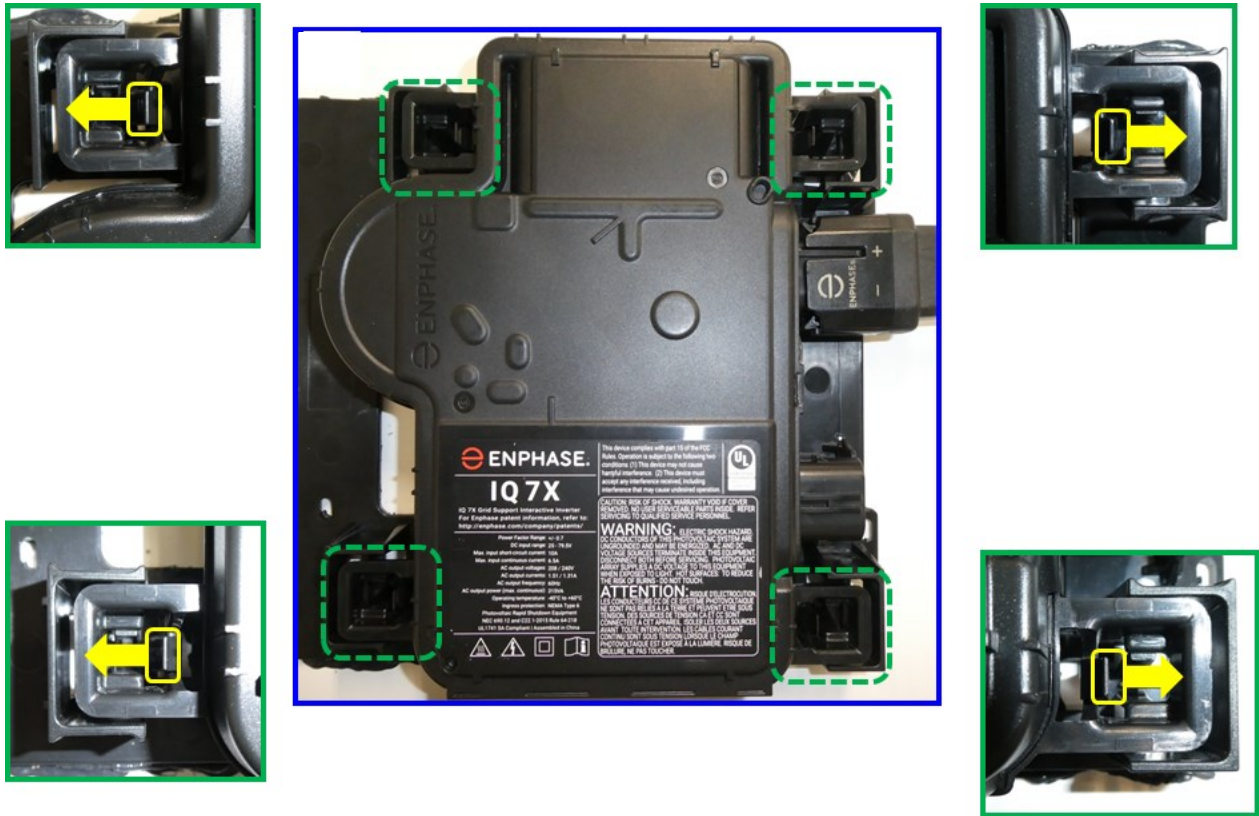

Figure 17. Expanding the nails of the four corners.
- 6) Remove Microinverter by expanding the nails of the four corners. (See Figure 17).